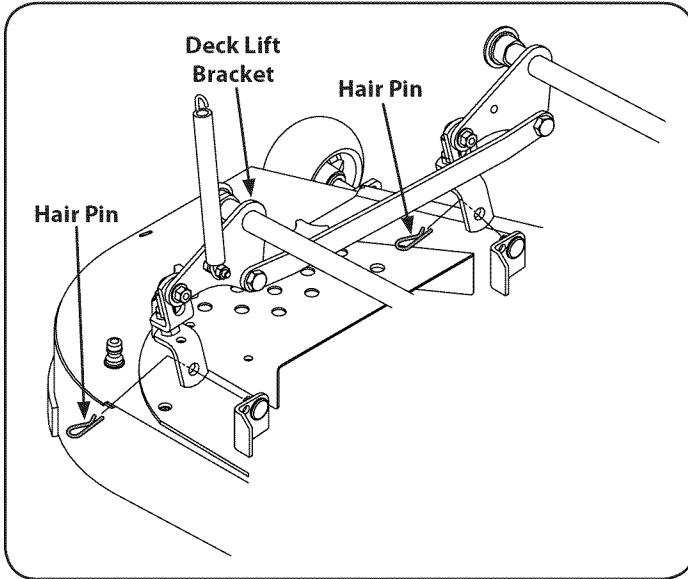

Figure 37
4. Remove the four hair pins from the right and left side of the deck lift bracket. See Figure 37.